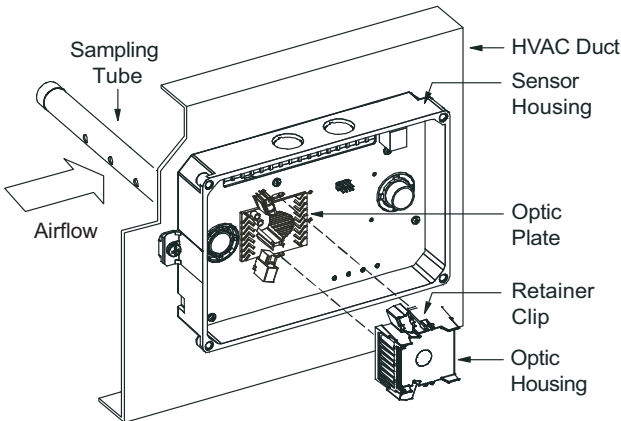

Fig. 60 — Sensor Cleaning Diagram
- 1. Disconnect power from the duct detector then remove the sensor’s cover. (See Fig. 60.)